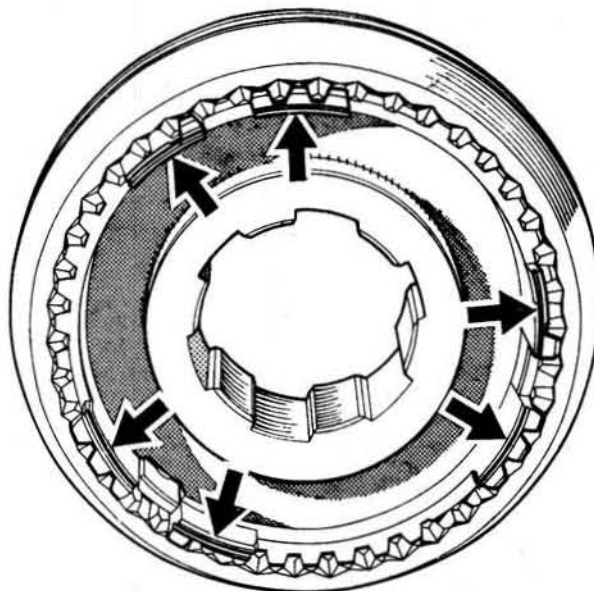

Fig.6.19. Identification grooves, 3rd/top synchro assembly
- 1 Start with the synchro assemblies for which the assembly procedure for 1st/2nd and 3rd/Top is the same but note that although the 3rd/Top and 1st/2nd synchro hubs are similar in appearance they are not identical. To distinguish them, a groove is cut on the edge of the 3rd/Top hub as illustrated in Fig.6.19.